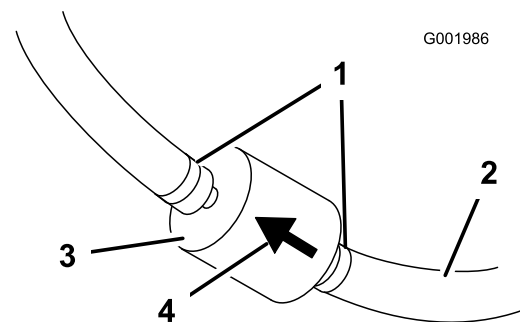

Figure 54
5. Squeeze the ends of the hose clamps together and slide them away from the filter (Figure 54).